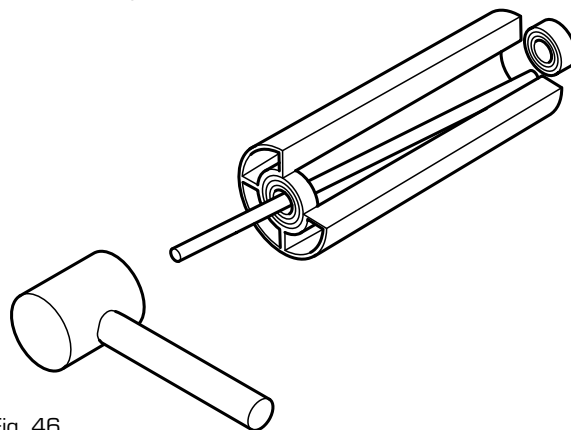

Fig. 46
C. The worn bearings can now be tapped out of the rotor hub (Fig 46).